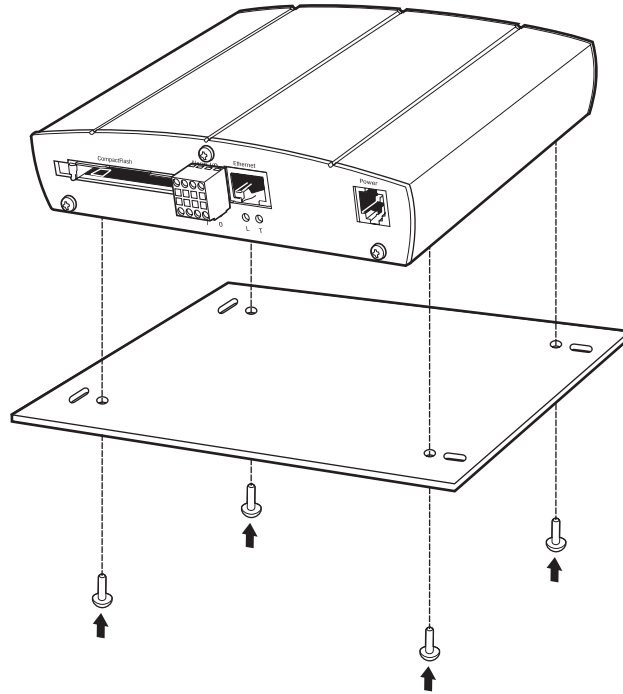

Figure 17. Securing NET350 to Wall Mount Bracket
2. Refer to Figure 17. Align the grooves on the underside of the NET350 with the four smaller holes in the mount. Install four screws (supplied) through the holes in the bottom of the wall mount. The screws fit in the grooves. Tighten carefully to secure the NET350 to the wall mount. **DO NOT OVER-TIGHTEN**; the screws can damage the aluminum grooves.